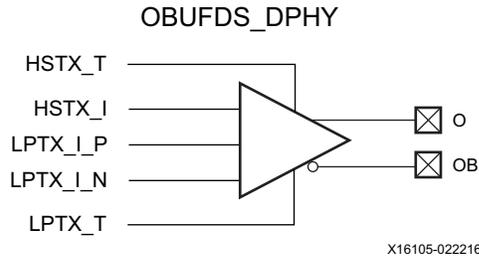

Figure 1-45: Differential Output Buffer Primitive (OBUFDS\_DPHY)
The differential output buffer primitive (OBUFDS\_DPHY) is only supported in the HP I/O banks in the Virtex UltraScale+, Kintex UltraScale+, Artix UltraScale+, and Zynq UltraScale+ devices (Figure 1-45). This UltraScale architecture specific primitive is for MIPI D-PHY transmitter implementation. The HSTX\_T port is used to 3-state the MIPI D-PHY high-speed (HS) transmitter. The LPTX\_T port is used to 3-state the low-power (LP) transmitter. The HSTX\_I and LPTX\_I(P/\_N) inputs are from the interconnect logic to the HS